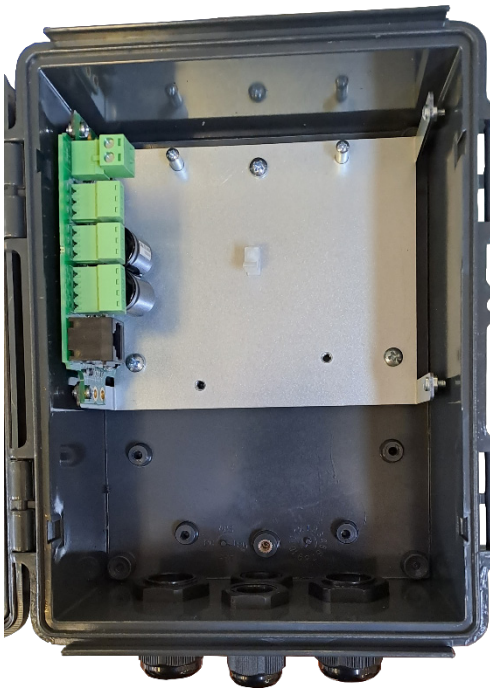

Figure 4: SINGLE CABLE RTU 2
The 2-Wire host is connected to the RTUs by the connector labeled J2 (F). Figure 4 shows how the cable is to be connected: